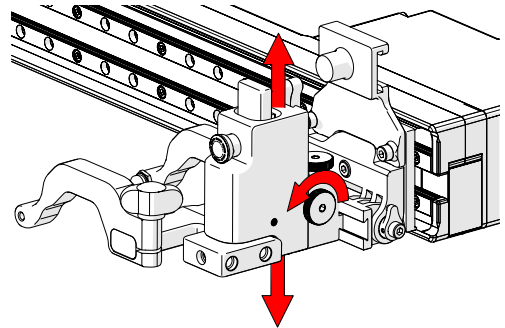

Fig. 112 - Vertical adjustment
2. The vertical adjustment knob (*Fig. 112*) allows height adjustment of the heavy duty vertical probe holder. This adjustment also controls the probe holder's spring tension.